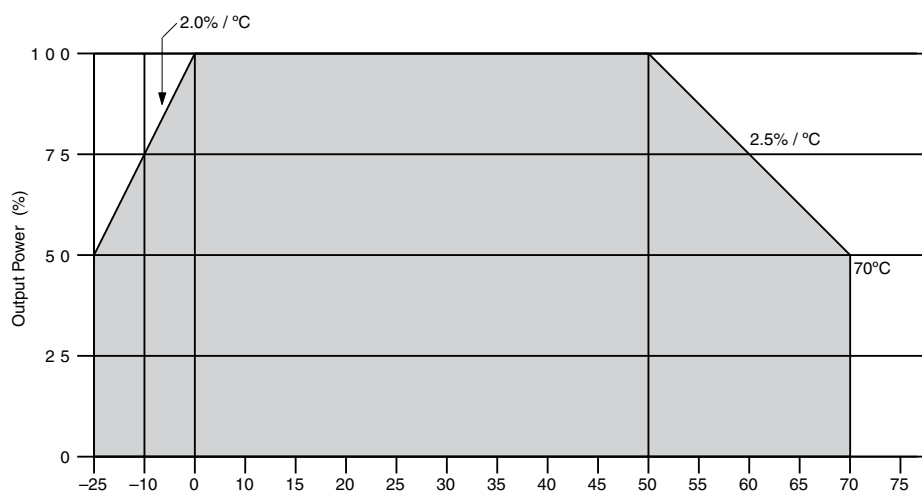

Figure 3. Temperature Derating
Operating Temperature 0 to +50°C @ full rated power; -25 to +70°C @ 50% rated power (see Figure 3)
Cooling Free air convection with derating (see Figure 3 and Technical Notes)
- 9. Temperature Derating (See Figure 3):** All DMS-PS-CM supplies are specified to operate at their full rated power over the temp range of 0°C to +50°C in still air (convection cooling) without any thermal derating. For operation over +50°C in still air, derate the output power linearly by 2.5% per °C down to 50% rated power at +70°C. To operate the units at full rated power between +50°C and +70°C, a minimum forced-airflow of 100 LFM is required. For operation below 0°C, derate the output power linearly by 2.0% per °C down to 50% rated power at -25°C.